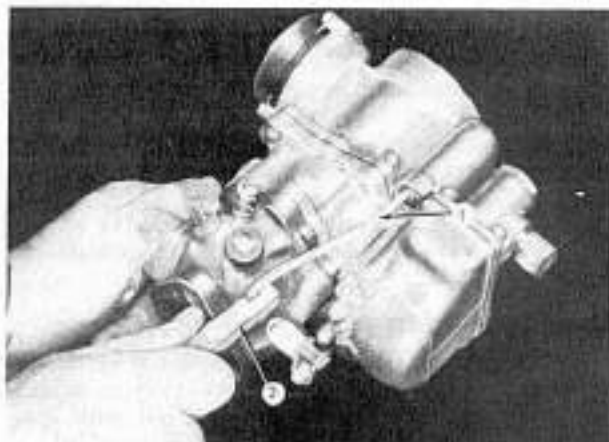

FIG. 406
If the travel of the accelerating pump plunger is incorrect, adjust the travel by bending the throttle connector rod (1) with Bending Tool J-1137 (2) at the point shown in Fig. 406. The rod must be discon-